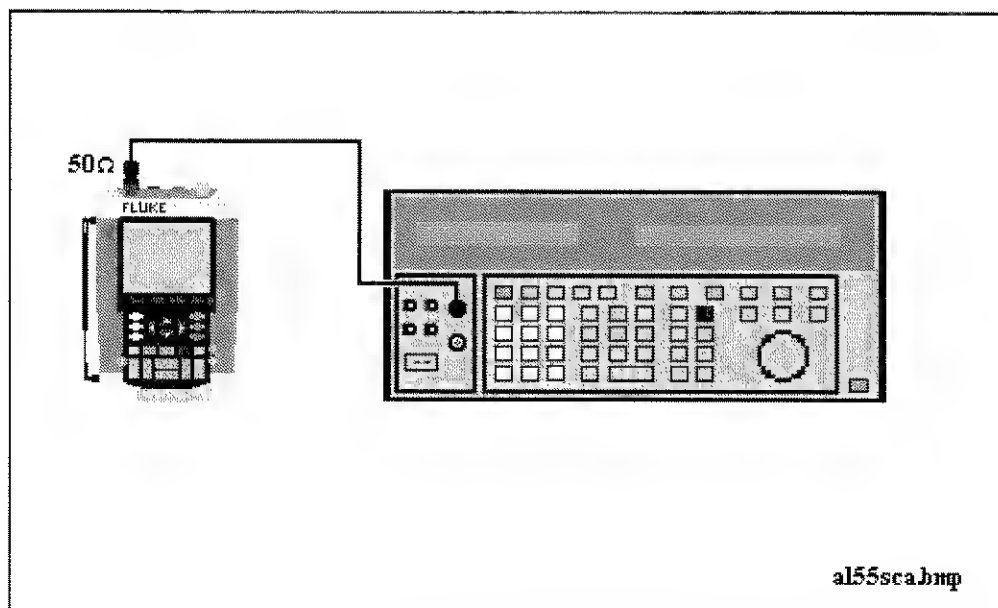

Figure 5-3. 5500A SCOPE Output to Test Tool Input A
1. Connect the test tool to the 5500A as shown in Figure 5-3.